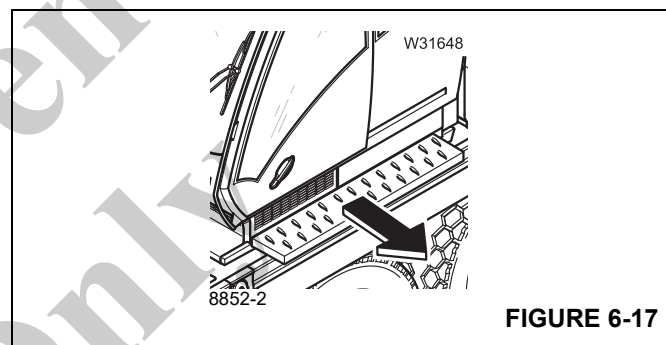

FIGURE 6-17
12. Extend the Step (Figure 6-17) if necessary. Refer to *Superstructure Cab Platform*, page 4-34.
10. Retract the Step as shown in (Figure 6-17).